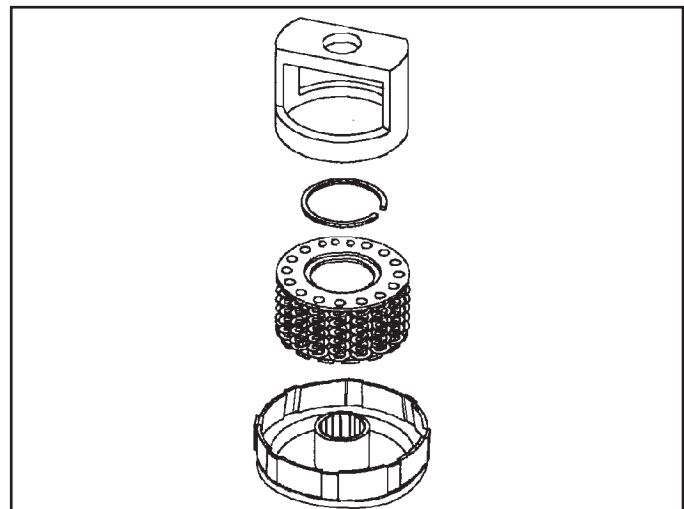

Figure 96
6. Install Saturn's spring return compression fixture (SA9146T) or equivalent and compress the spring. Use snap ring pliers to remove the retaining snap ring. Slowly release the spring tension and remove the fixture and spring assembly (See Figure 96).